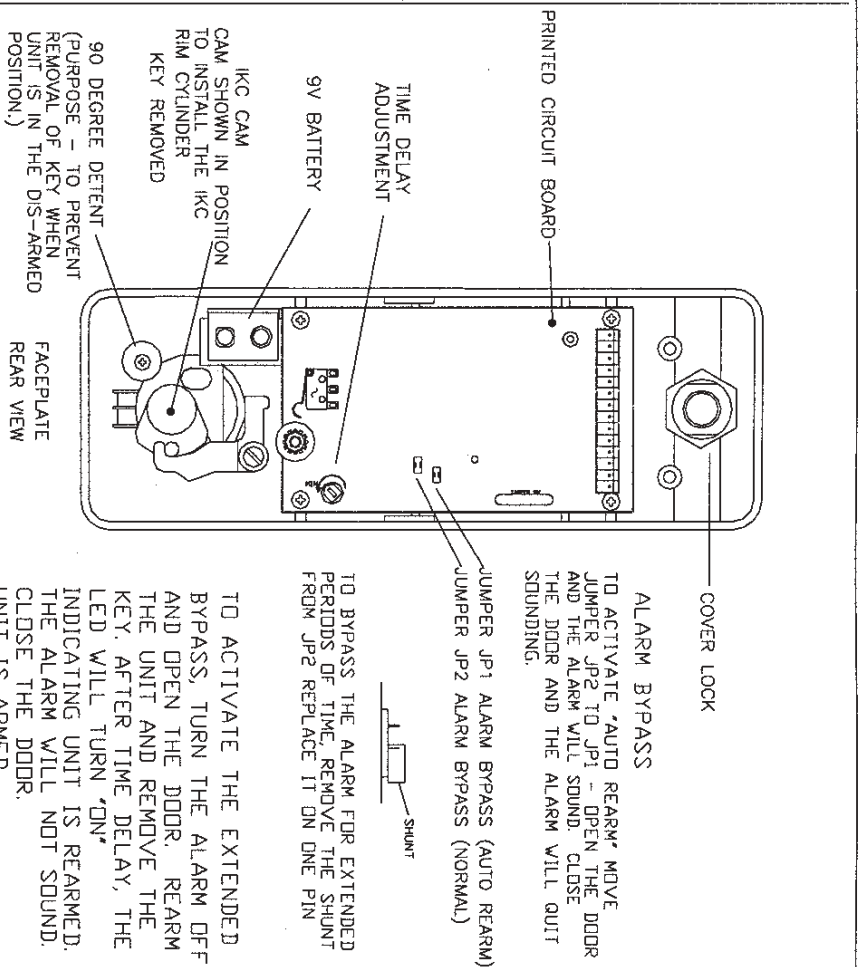

FIG. 6
When the system is by-passed by an authorized person, that person has a limited amount of time to exit and close the door before the alarm sounds. The time delay is preset at the factory to approximately 8 seconds (minimum time). If more time is desired, an adjustment is provided in the alarm (See page 5 Fig. 6).
When it is necessary to by-pass the alarm for extended periods of time, such as when deliveries are being made through a protected door, an adjustment is provided in the alarm for this situation as described on page 5 Fig. 6.
With this feature, the unit will sound when the door is opened by unauthorized personnel, stop when the door is closed and automatically rearm the alarm. (See page 5 Fig. 6)
To prevent removal of the arming key in the disarmed position, a detent is provided in the hardware kit. (See page 5 Fig. 6)
- 1) Check CAM alignment - key removed (See pg. 5 Fig. 6).
- 2) Cam mis-aligned - remove cylinder. Align IKC cam as per drawing (see page 5 Fig. 6). Remove key from cylinder - reinstall.
- 3) Check CAM position/ installation of IKC cylinder (see page 5 Fig. 6)
INSERT A BLADE SCREWDRIVER IN THE CROSS-SLOTTED SHAFT AT THE BOTTOM OF THE CYLINDER CAVITY. TURN IT COUNTER-CLOCKWISE UNTIL A STOP IS REACHED. THIS WILL PLACE THE INTERNAL CAM IN THE CORRECT POSITION TO RECEIVE THE CYLINDER (SEE FIG. 6).